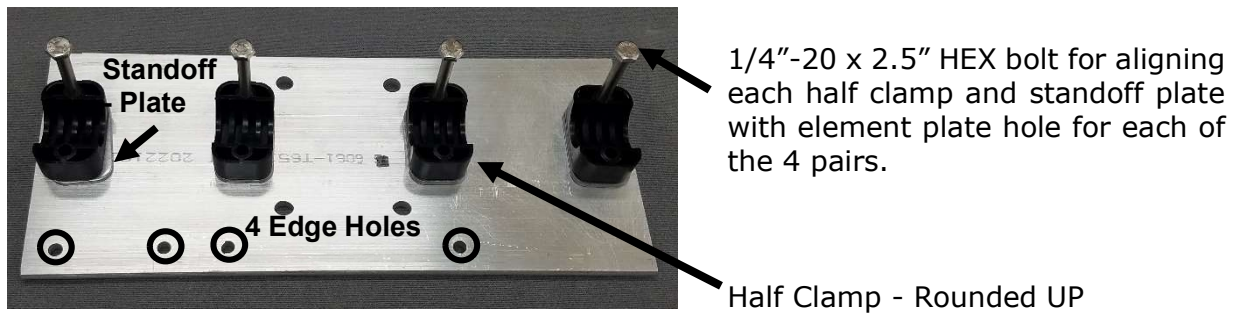

FIGURE 10: Mounting plate with PA-clamps, standoffs and HEX bolts.
☐ **STEP 6.9** Place a standoff plate (1901) aligned to each of the 4 pairs of holes, which are parallel to the short edge of plate. (**FIG. 10**).
☐ **STEP 6.10** Place PA- half- clamps (1801) on top of each standoff plate (1901), with FLAT side down. Align clamp holes to each pairs of holes, as shown in **FIG. 10**.
□ **STEP 6.11** Place a 1/4"-20 x 2.5" HEX bolt (11001) through one side of each clamp / standoff plate combination and through element plate hole, as shown in **FIG. 10**.